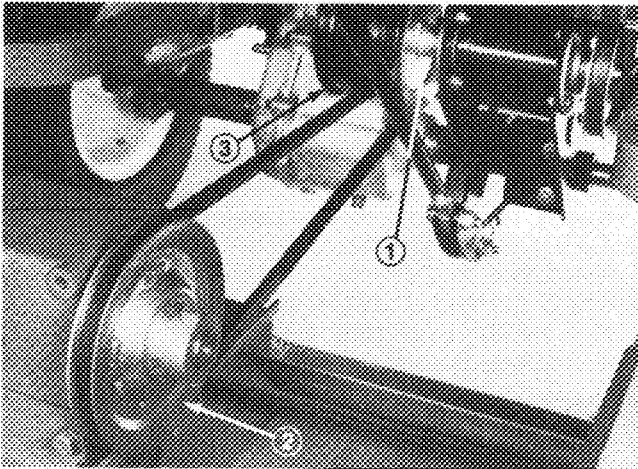

Figure 4
2. Route V-belt around jackshaft pulley and gear box pulley (Fig. 4).
3. Raise idler pulley and position over upper portion of belt (Fig. 4)